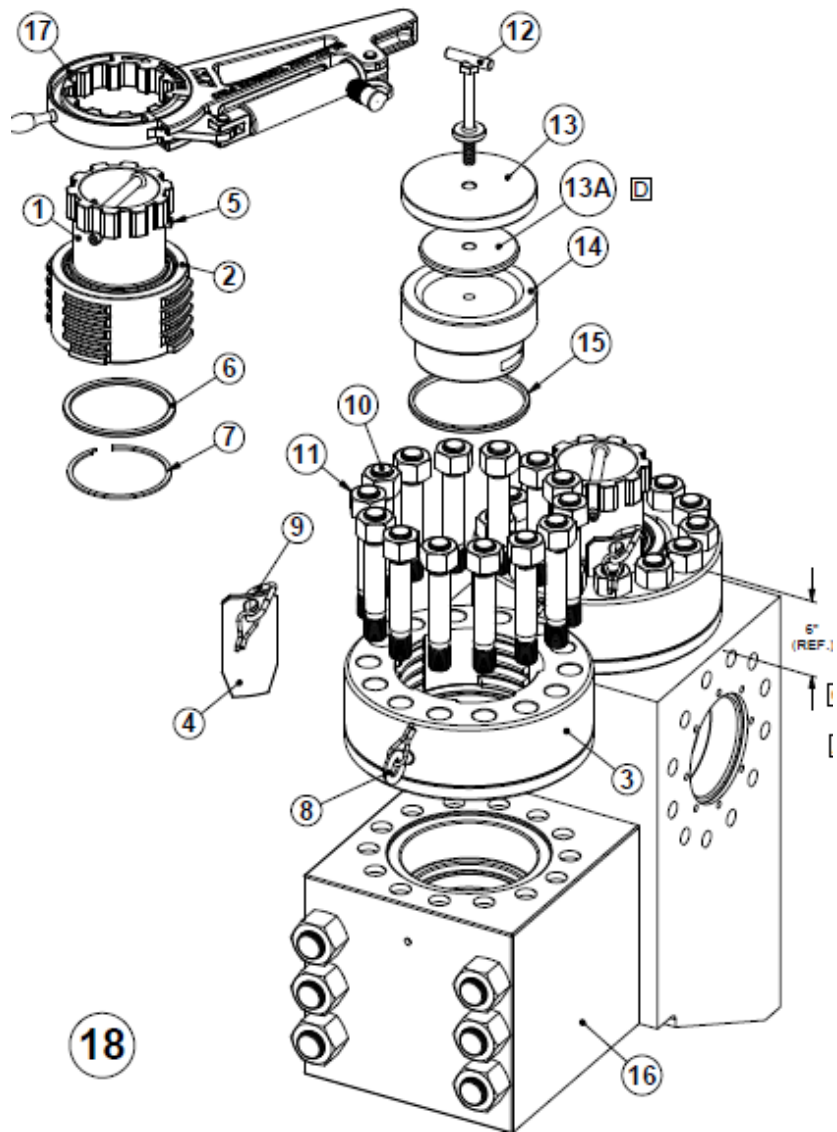

Figure 1: Exploded close up of Figure 2 showing the parts in more detail.
- Issue:** Due to a recess in the seal retainer (item 14 in Figure 1), the adapter plate (item 13 in Figure 1) is experiencing bending stresses that are cyclical in nature most noticeably on the suction side of the OEM fluid end. This may cause the adapter plate to eventually fail due to cracks caused by fatigue loading.
- Solution:** NOV Mission will supply a disc plate (item 13A in Figure 1) to all owner/operators of the 14-P-220 Mud Pump Torque Pro Valve Cover System for installation in the recess of the seal retainer below the adapter plate as shown in Figure 1 to mitigate any bending stresses which may be caused by the recess. Going forward, Valve Covers will no longer be manufactured with the recess in the seal retainer therefore the addition of the disc plate is only applicable to Valve Covers manufactured before the date of this bulletin.
- Instructions:** To install the disc plate (item 13A in Figure 1), remove the lock ring and lug adapter (items 1 and 2) per the instructions in the NOV Torque Pro Manual, unscrew the handle (item 12) and remove the adapter plate (item 13). Install the disc plate (13A) in the recess of the seal retainer (item 14) locating the disc plate (13A) in the middle of the recess. Install the adapter plate (13) on top of the disc plate (13A). Notice that the adapter plate (13) will sit on top of the disc plate (13A) and not on top of the seal retainer (14). Screw the handle (12) back into its original position. Re-install the lock ring and lug adapter (1 and 2) per the instructions in the NOV Torque Pro Manual.